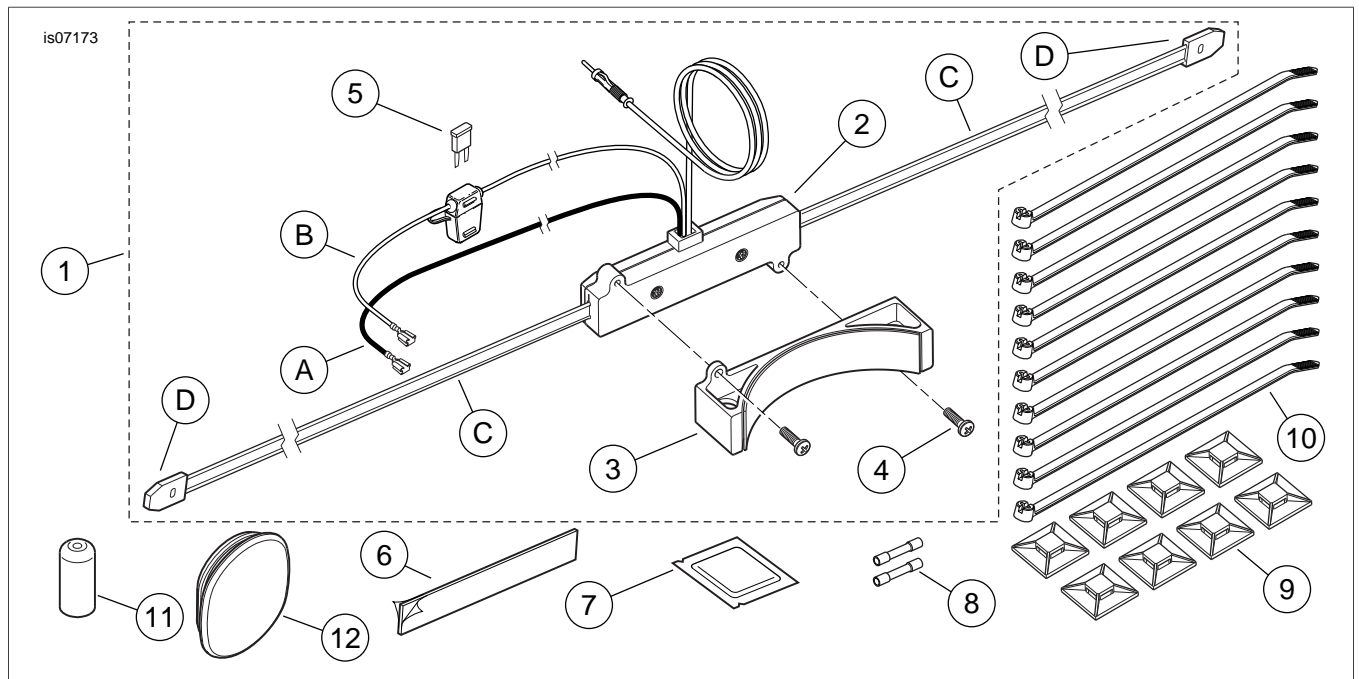

Figure 4. Service Parts, Boom! Audio Hidden AM/FM/WB Enhanced Reception Antenna
1. See Figure 4. Get the antenna (1) and alcohol cleaning packet (7) from the kit.
1. See Figure 4. Get the antenna (1), foam tape (6) and alcohol cleaning packet (7) from the kit.
If an accessory IS already connected to the cigarette lighter terminal mounting tabs [132A]: See Figure 4. Splice into the power (orange/white) and ground (black) wires to connect the antenna as follows: